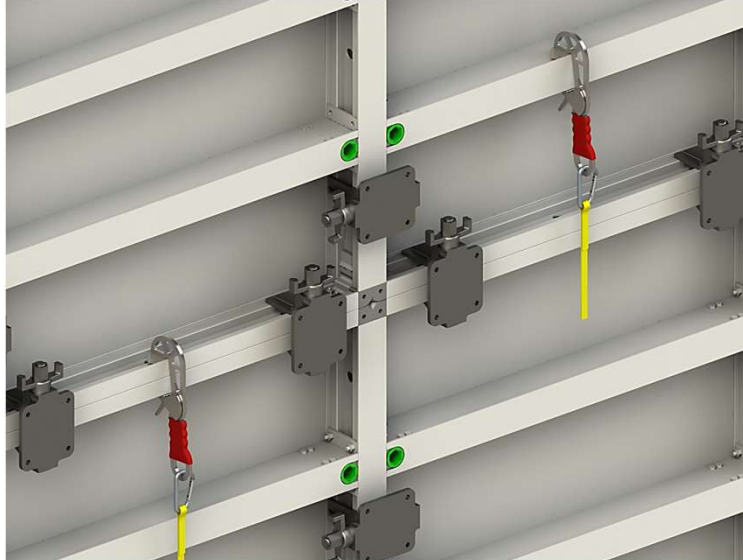

Figure 2. Personal Tie-Off Lanyard Device ONLY Attached The Horizontal Inner-Rail OR Horizontal Siderail Joint
- To attach the Personal Tie-Off Lanyard Device to a horizontal inner rail or horizontal siderail joint, the user must first engage the safety trigger and place the top bearing plate above the flange on a horizontal panel rail, then push the lower plate underneath the bottom flange and release the trigger. (See Figure 2 showing a Personal Tie-Off Lanyard Device attached to a panel horizontal inner rail OR panel horizontal siderail joint)